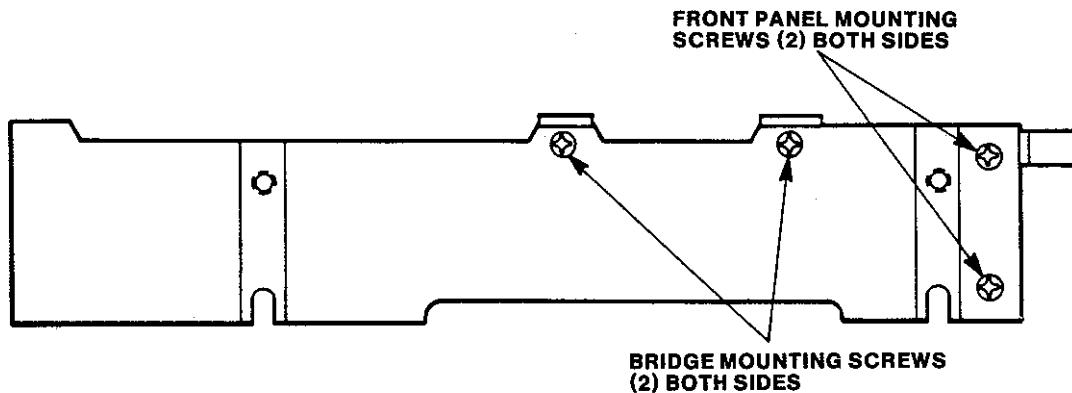

FIGURE 6-6
3. Remove the four bridge mounting screws attaching the Bridge Assembly to the chassis (Figure 6-6).